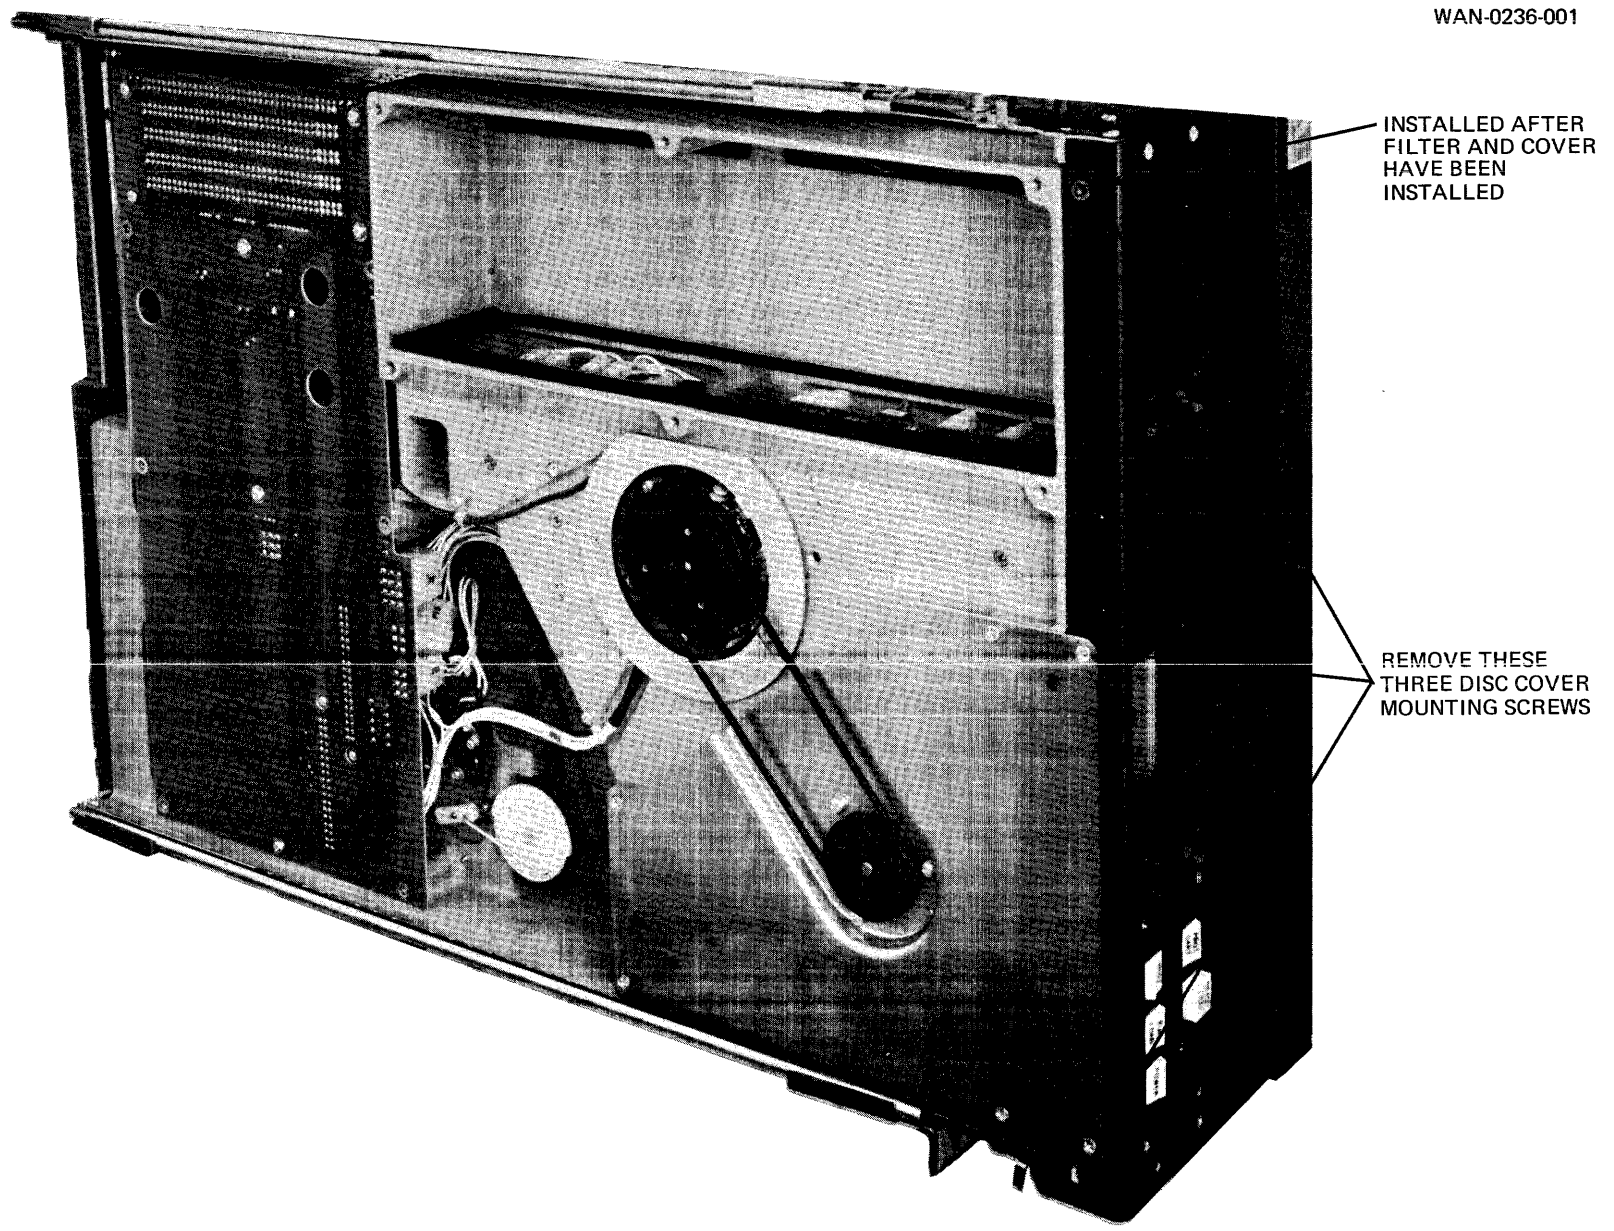

Figure 5-12. Lower Disc Cover Mounting Screws
5.4.2.8 Series F. Prior to removing the fixed disc assembly on the Series F Disc Drive, refer to Figure 5-12, and perform the following steps:
- C. Remove the screws and stand-offs around the perimeter of the fixed disc cover as well as the three screws on the bottom front part of the cover (ref. figure 5-12). Unplug connector P12 for the cartridge sector transducer. Disconnect and tag the solenoid leads.